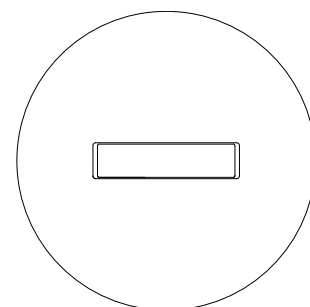

Fig. 6
6. Break the protective label in the center of the rough-in cover to expose a slot. See Fig. 6